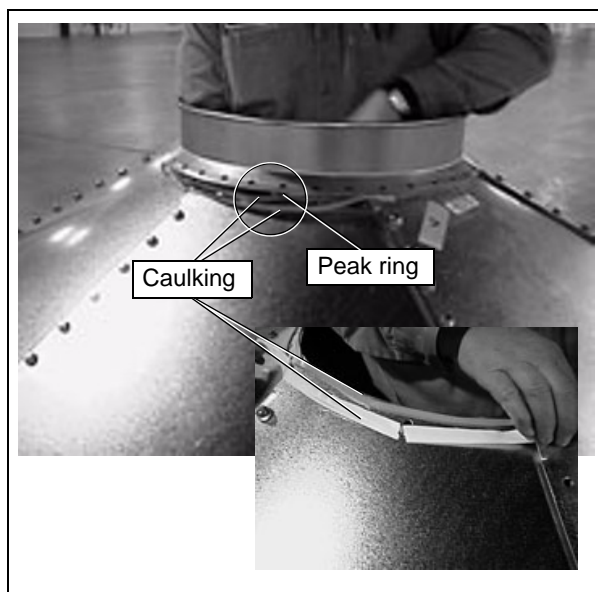

Figure 7E
Use two (2) strips of caulking between peak ring and roof panels (See Figure 7E). Note that the peak ring goes on the outside of the roof panels.